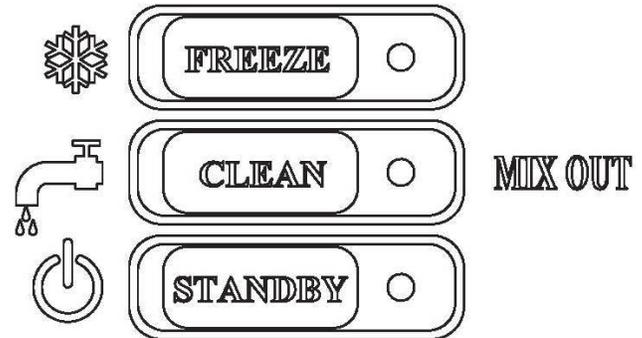

Fig. 26
5. Push the word “**CLEAN**” (Fig. 26) and let the unit agitate for approximately three to five minutes. **NOTE: The buttons must be pushed and held in for 2 seconds to operate. This prevents mode changes from accidental contact.**